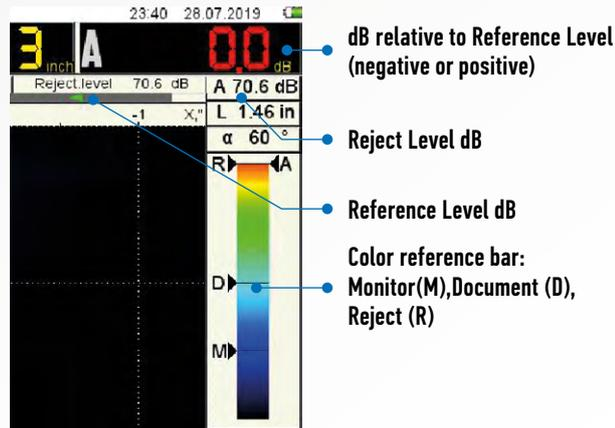

FIGURE 52
• In Figure 52 below, the color bar displays the relative sensitivity of the system to the indication highlighted by the cursor. The black triangle on the right side points to the color displayed under the cursor. **The black triangles on the left side delineate the zones that indicate Monitor (M), Document (D), and Rejection (R) criteria. These are only active if a reference level is set.**